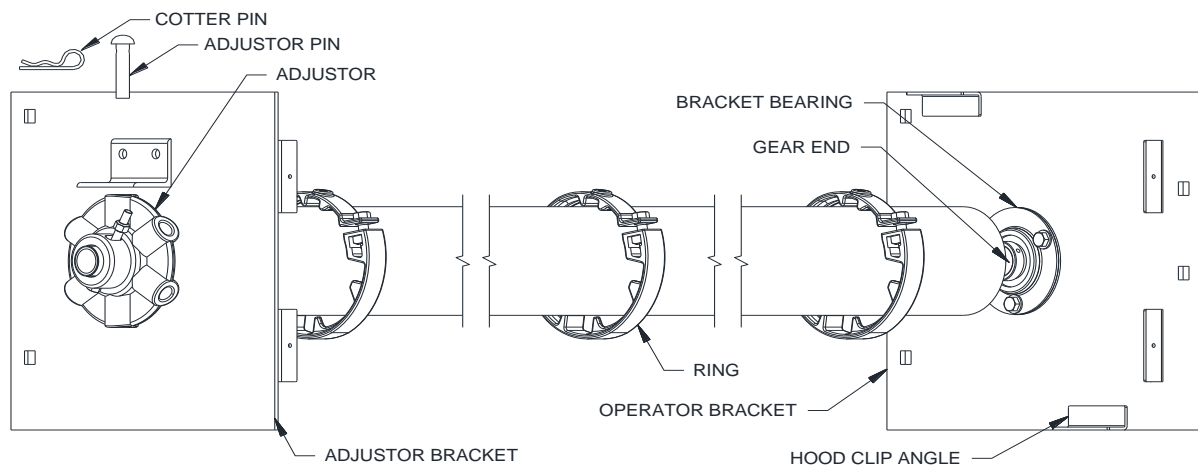

Figure 6.4– Brackets and Barrel Prior to Installation
9. Locate the brackets. Determine the “operator” and “adjustor” brackets by referring to **Figure 6.4**. The “operator” bracket may vary significantly based on the operation of the door. The “adjustor” bracket will contain a label with spring adjustment instructions.